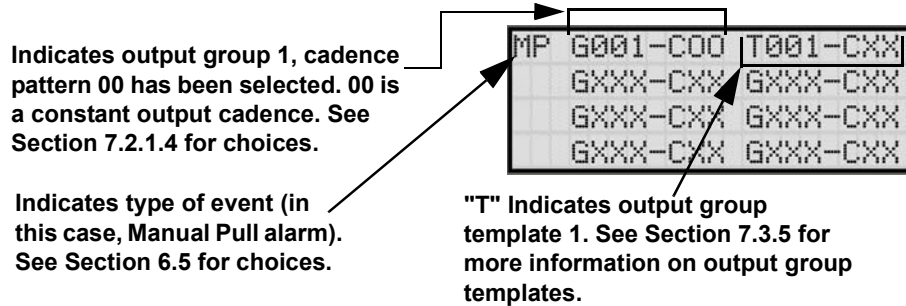

Figure 7-3 Selecting Output Groups/templates and Cadence Patterns for a Zone Event
6. From the next screen, a list of 8 event types will display. Select the event type you want to program. A screen similar to the one shown in Figure 7-3 will display. Press .
8. Select options for each event that could occur in this zone. Figure 7-3 is a complete example of how you might map a zone.